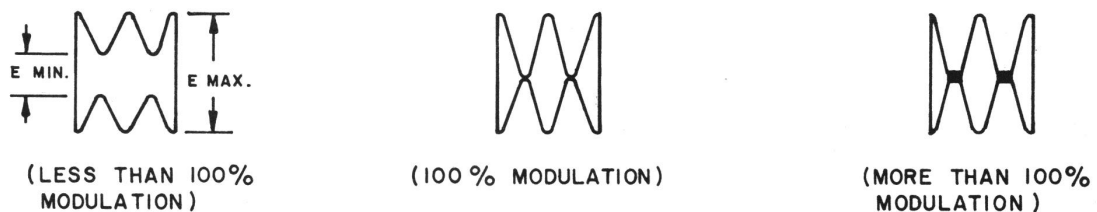

FIGURE 4, MODULATION PERCENTAGE WAVEFORMS
- C. Turn the transceiver POWER to ON and press the transmit switch on the microphone. Observe approximately 3.5 to 4 watts on the wattmeter and a 95 to 100% modulation pattern as shown in Figure 4.